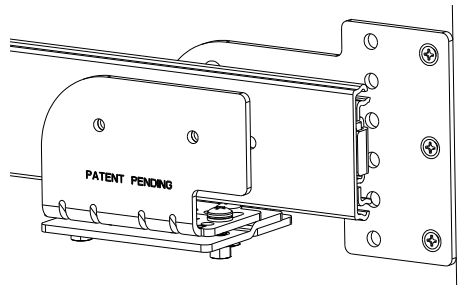

FIGURE 7.2
32mm system holes: If the system holes are available, attach the side mounting bracket to the inside of the cabinet using the (6) M6.3 x 14mm Euro screws into the 32mm system holes. The side mounting brackets should still be flush with the edge of the cabinet (See Figure 7.2).